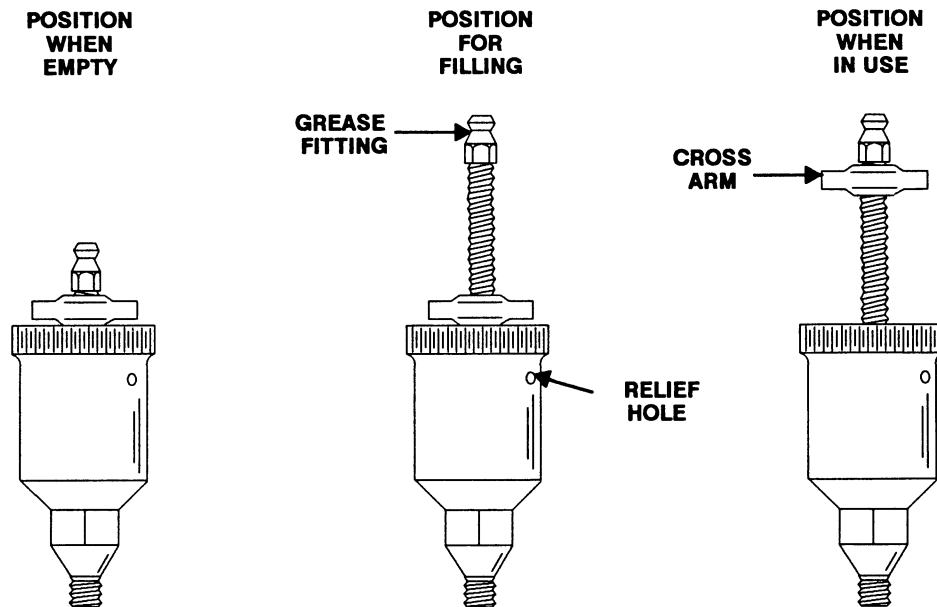

Figure 4. Automatic Lubricating Grease Cup
Before removing the impeller, turn the cross arm on the automatic grease cup (13) clockwise until it rest against the cover (see Figure 4). This will prevent the grease from escaping when the impeller is removed.
the relief hole. Turn the grease cup arm counter-clockwise until it is at the top of the stem; this will release the spring to apply grease to the seal (see Figure 4).